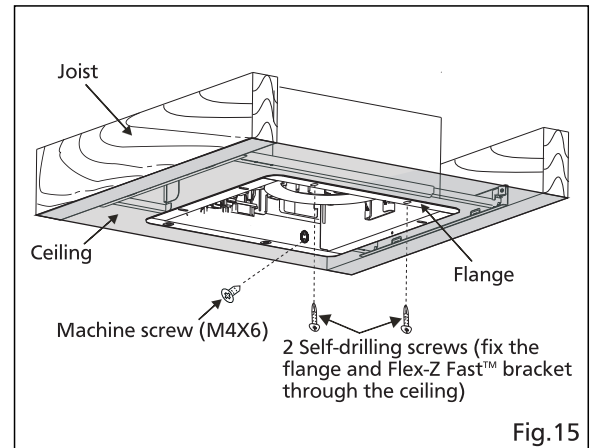

Fig.15
4. Secure the fan body to Flex-Z Fast™ bracket by using 2 self-drilling screws, plug connector to receptacle and secure the fan body to adaptor by using machine screw (M4X6). (Fig.15)